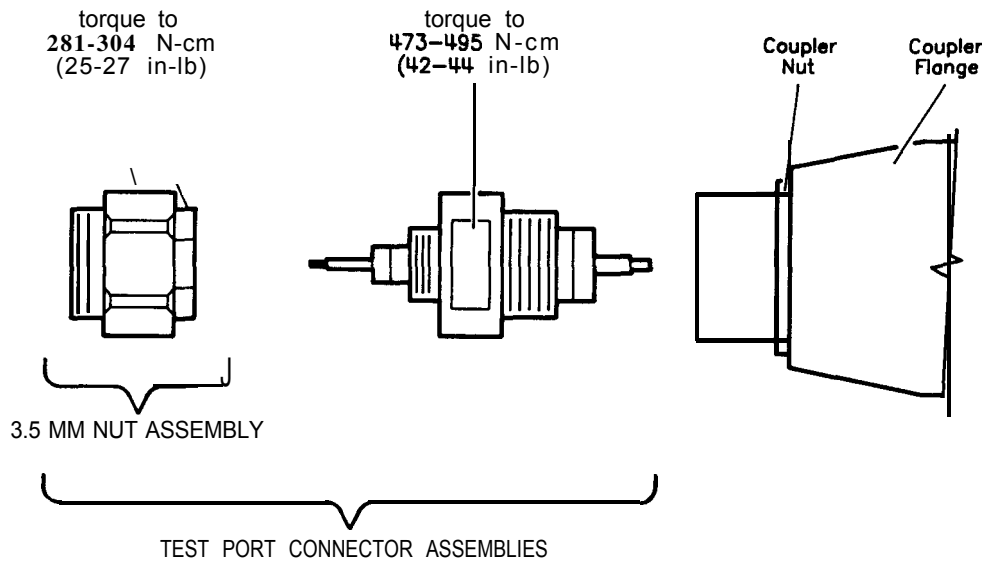

Figure 5-8. Exploded View of the 3.5 mm Port Connector
Refer to Figure 5-8 and the following text to replace or repair these 3.5 mm test port connectors.
2. Replace with a new test port connector assembly using a 5/8 inch torque wrench to the limits called out in Figure 5-8.
3. Torque with a 9/16 inch torque wrench to the limits set in Figure 5-8.
(13) POWER TRANSFORMER